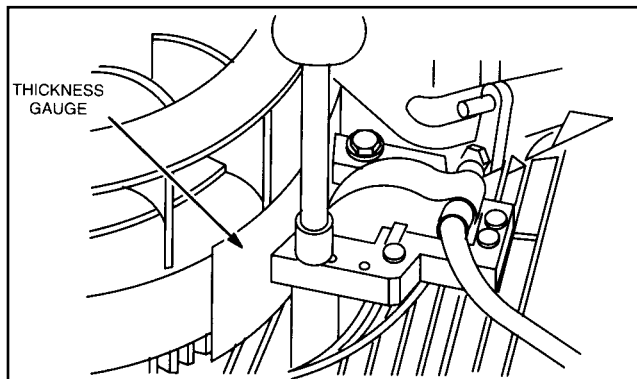

Fig. 3 - Adjusting Air Gap
2. Place thickness gauge, .008"-.012" (0.20-.30 mm) between magnet and armature laminations, Fig. 3.